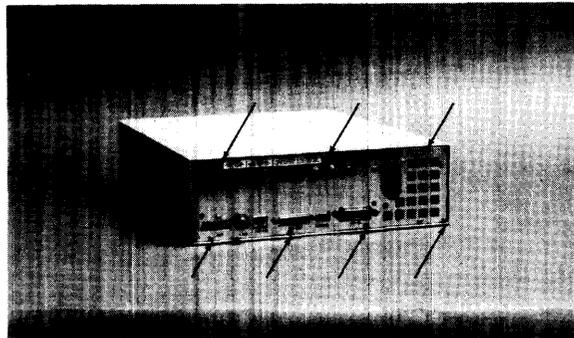

Figure 2-4. Rear Panel Case Screws
1. Remove the seven screws (Figure 2-4) holding the rear panel to the case.